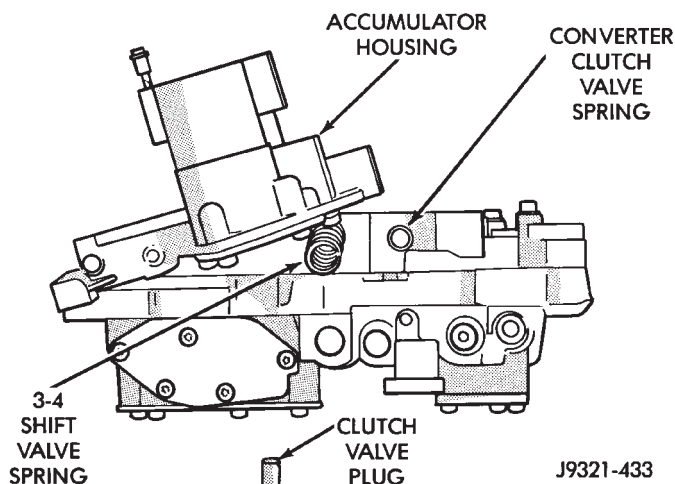

Fig. 80 3-4 Shift And Converter Clutch Valve Springs And Plug
(21) Carefully rotate 3-4 accumulator housing upward and remove 3-4 shift valve spring and converter clutch valve plug and spring (Fig. 80).